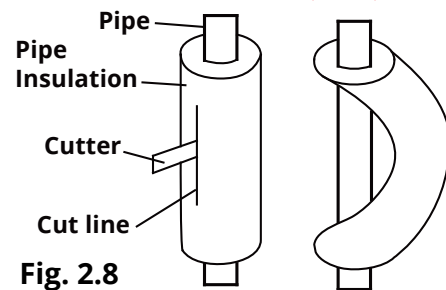

Fig. 2.8
3. As shown in Fig. 2.8, use a sharp cutter to cut the pipe insulation and bend the pipe after it is exposed. After bending, place the insulation back on the pipe and secure it with adhesive tape.